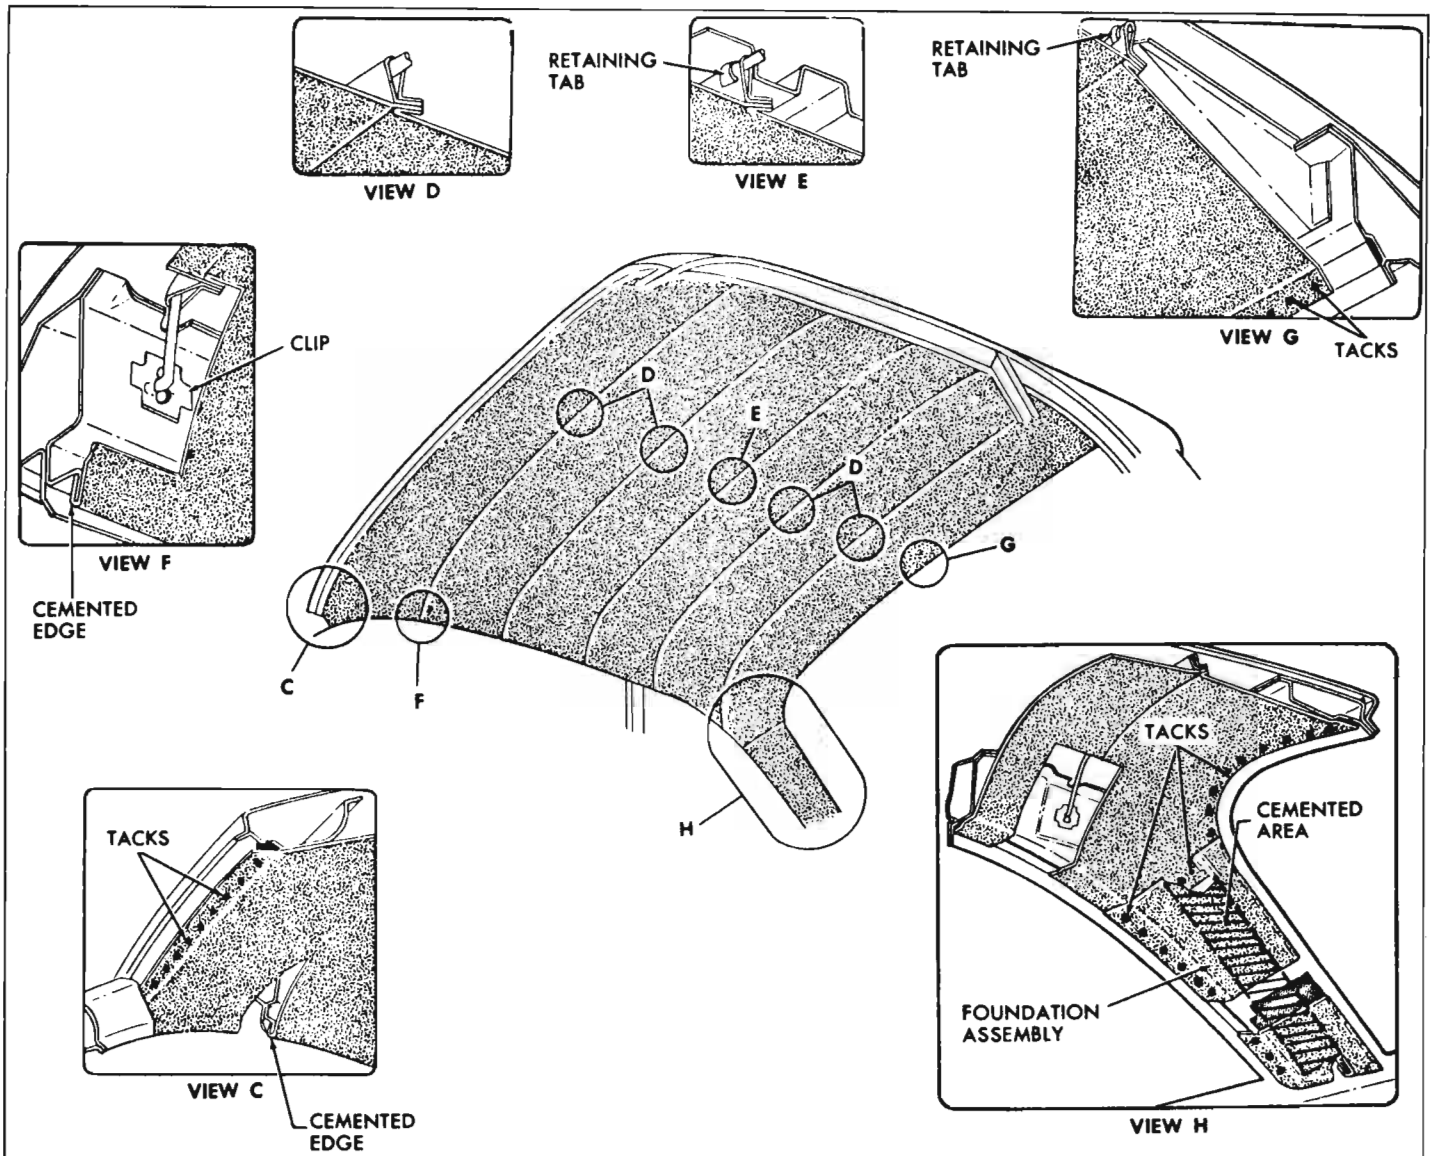

Fig. 10-96—Headlining Installation
3. On each side of body, lower rear quarter window and remove tacks securing forward edge of rear quarter filler upper foundation assembly (See View "H," Figure 10-96). Then turn back trim, and with a suitable flat-bladed tool carefully break cement bond between foundation assembly and pillar and remove assembly.